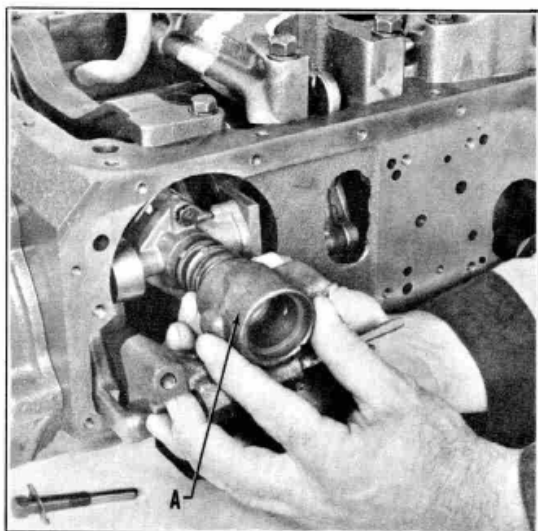

Figure 14
2. Place the chamfered side of the governor oil delivery sleeve (A) over the end of the governor and install carefully guiding rings into the oil delivery sleeve, Figure 14.